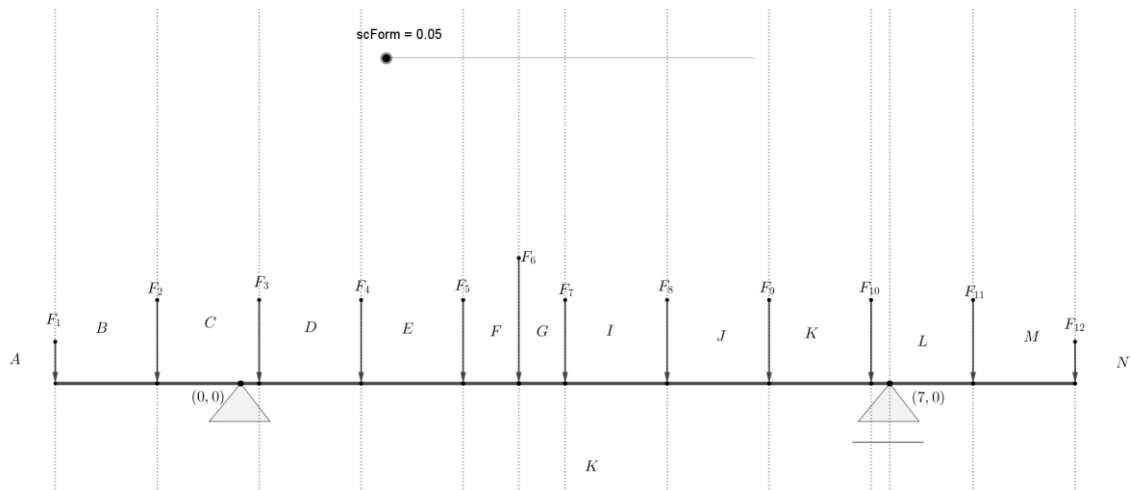

Fig.2. Simply supported beam.
2. A beam is shown in Fig.2 in "Beam.ggb". The beam is loaded with a uniform load and a unit load. The loads are given in kN and are multiplied with the factor scForm.